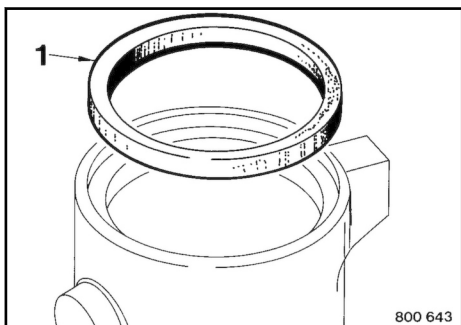

Fig. 194
10. Turn the bearing housing upside down and take out seal ring 1 ↗ Fig. 194.